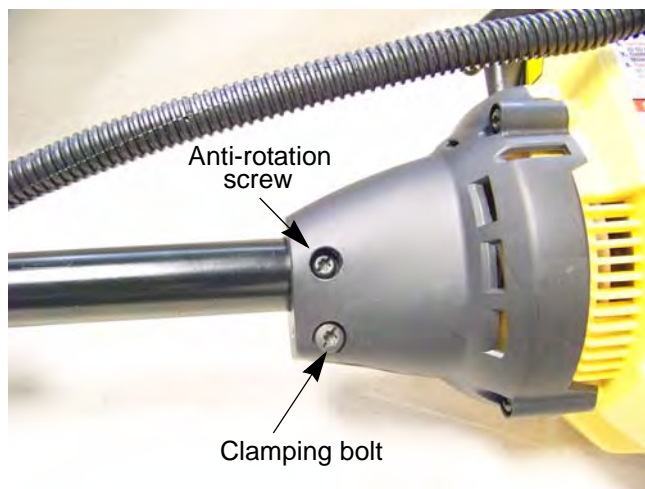

Figure 7.3
4. Loosen the clamping bolt with a T-20 driver. See Figure 7.3.